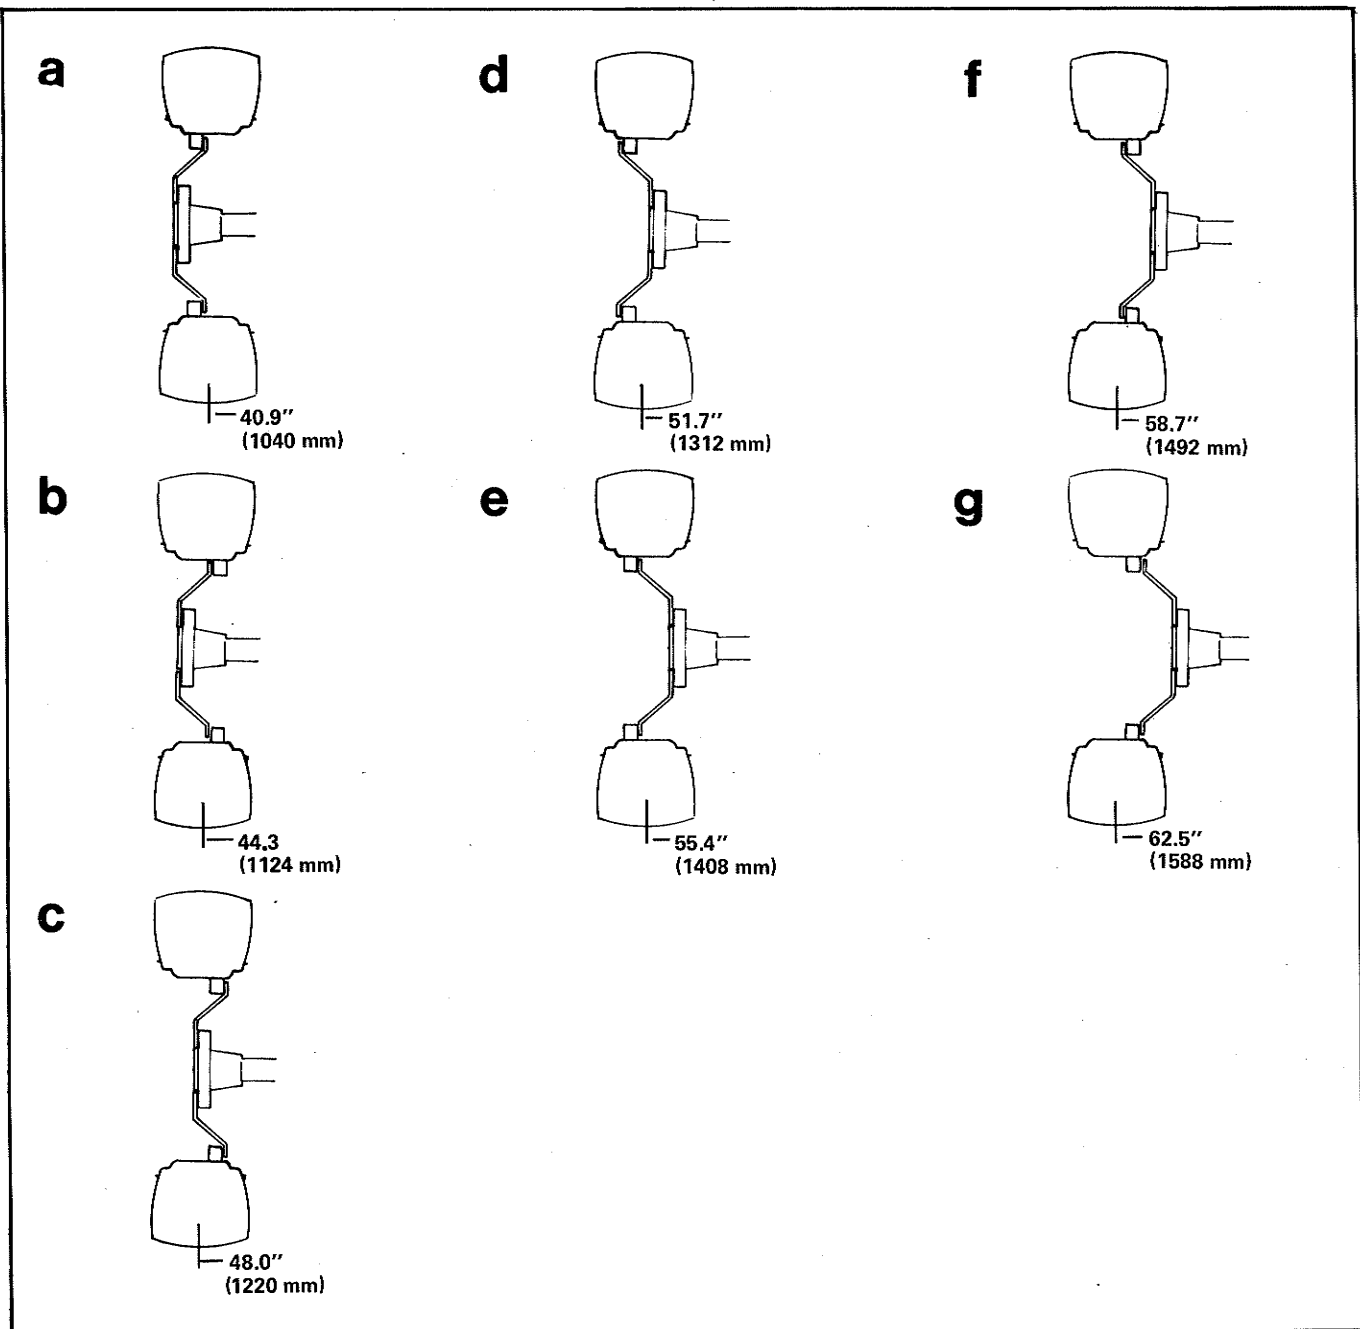

FIGURE 40 - 5030 Rear Wheel Tread
### MODEL 5030 & 9528 REAR WHEEL TREAD WITH 12.4 x 24 AGRICULTURAL TIRES (Figure 40)
The rear wheel hubs cannot be shifted on the axle but wheel discs can be mounted either dished in or dished out and the wheels can be bolted to the discs in several ways to provide seven wheel treads as shown in Figure 40.
2. Block the front wheels securely to keep the tractor from moving forward or backward, then jack up and block both ends of the rear axle housing securely in such position that the rear wheels and wheel discs can be interchanged and located to provide the desired wheel tread, a, b, c, d, e, f, or g as shown in Figure 40.
**NOTE:** Figure 40 shows only the left rear wheel for each of the tread widths a. through g. In each case the right rear wheel must be located in the same position to equally space the wheels from the tractor center line. Rearrange the wheels from side to side as required to make sure that tires always rotate in the proper direction as specified by the forward rotational direction arrow on the side of each tire.